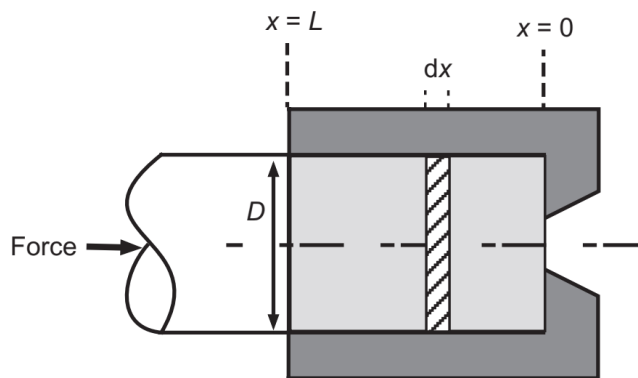

Figure 3.Q7
7. For a direct extrusion process, in addition to the extrusion pressure, energy is required to overcome friction at the billet/container interface (Refer to Figure 3.Q7). Use the slab method to find an expression for the maximum contribution of friction alone to the extrusion pressure as a function of the extent of ram travel or instantaneous billet length, L .